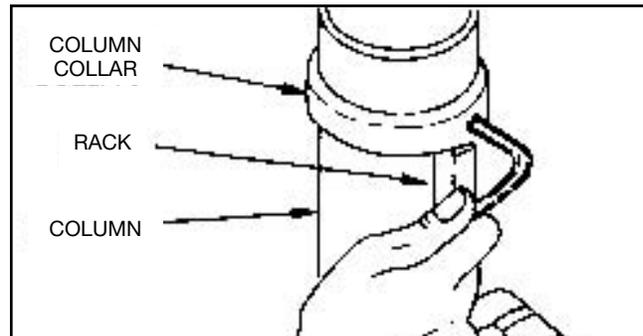

FIGURE 6
8. Check column collar for proper adjustment. Collar should not be angled on the column, and it should not be positioned so rack will slide freely in collar when table is rotated 360° around column table. If re-adjusted, only tighten set screw enough to keep collar in place. See figure 6.